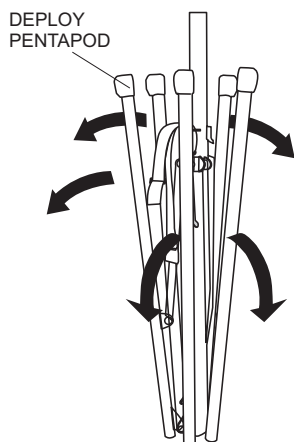

Figure 7. Deploying the Pentapod
3. Lift mast up and deploy the pentapod as shown in Figure 7.